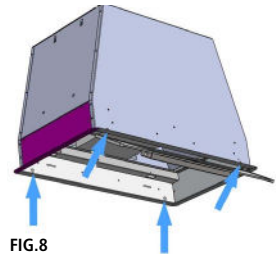

FIG.8
- › Insert the appliance into the hole made in the cabinet and fix it by inserting the screws supplied into the holes (Fig.8).